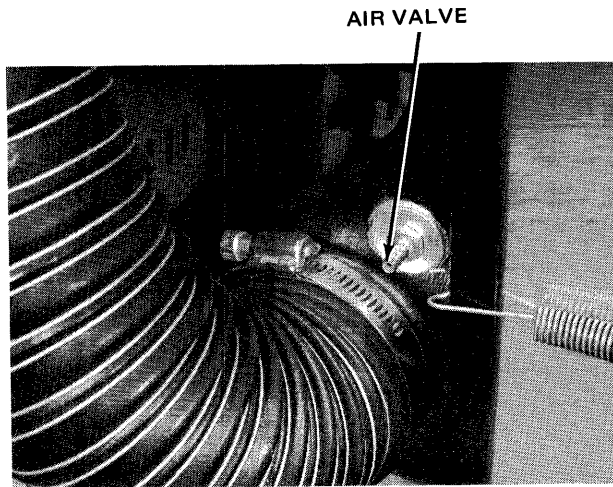

Figure 4-9. Air Pressure Check
- a. Utilizing portable air pressure gauge, measure air pressure on filter output plenum (see Figure 4-9).